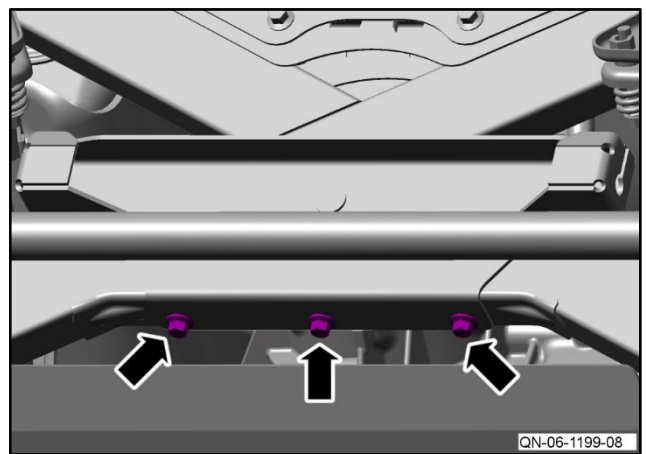

Figure 11
- 12** Install and torque the three bolts that attach the park brake bracket to the rear subframe to 22 Nm (refer to Figure 11).